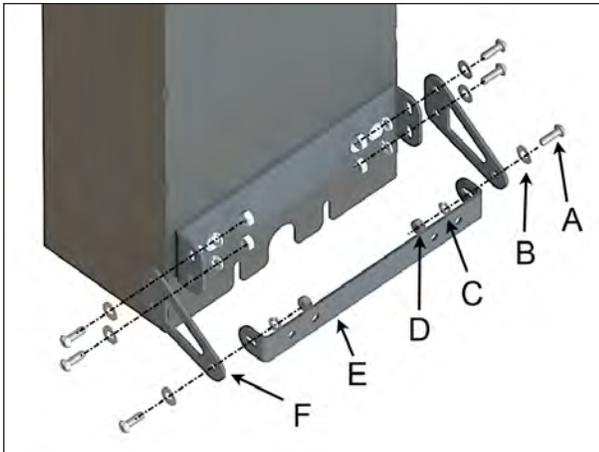

FIGURE 81: LOWER ARM AND TUB MOUNT BRACKET INSTALLATION
13. For all swim spa models, install the lower arms and the tub mount bracket on the lower sleeve bracket already set on the sleeve using 1/4-20 x 3/4" button head socket cap screws, the 1/4" flat washers, the 1/4" lock washers and 1/4-20 hex nuts see Figure 81.
Lower arms must go outside of the lower sleeve bracket as shown in Figure 81.